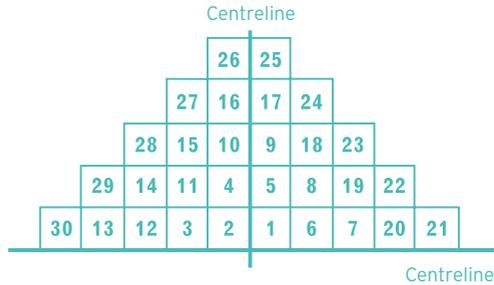

Figure 9 Pyramid layout
- ▶ Lay the first pyramid of tiles from the centrelines, using the sequence shown in fig. 9. Ensure a close bond is maintained at all times.
**NOTE** Construction of a pyramid should always start at the centre of the baseline, working in the same sequence as shown in Figure 9.